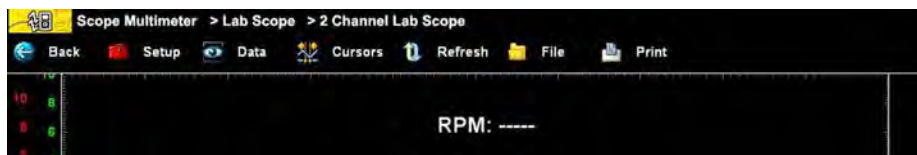

Figure 9-13 Sample Show RPM selected
- **Show RPM**—adds a digital engine speed readout near the top of the screen (Figure 9-13).